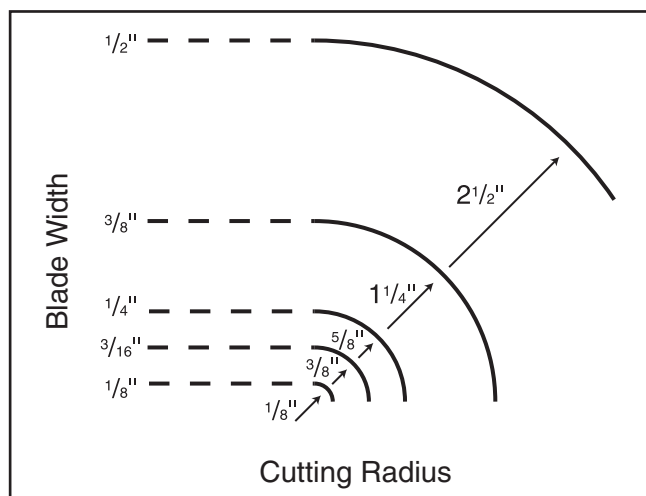

Figure 62. Blade width radii.
- **Curve Cutting:** Use the chart in **Figure 62** to determine the correct blade for curve cutting. Determine the smallest radius curve that will be cut on your workpiece and use the corresponding blade width.